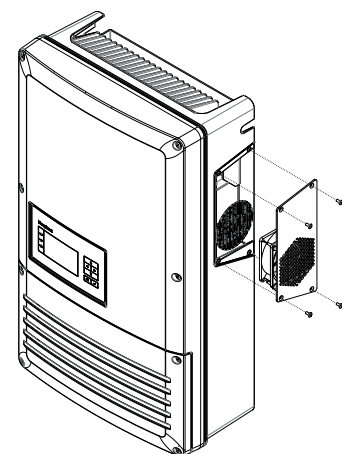

Figure 29: Removing the side housing cover
3. Unscrew the Torx screws of the side housing cover (Figure 29 on page 45).